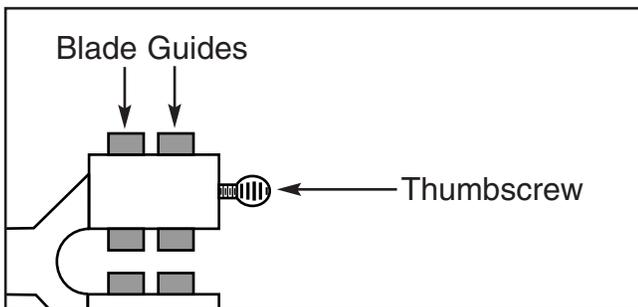

Figure 23. Blade guide assembly.
- Secure the blade guides by screwing the thumbscrews into the threaded holes that intersect the blade guides as shown in **Figure 23**.